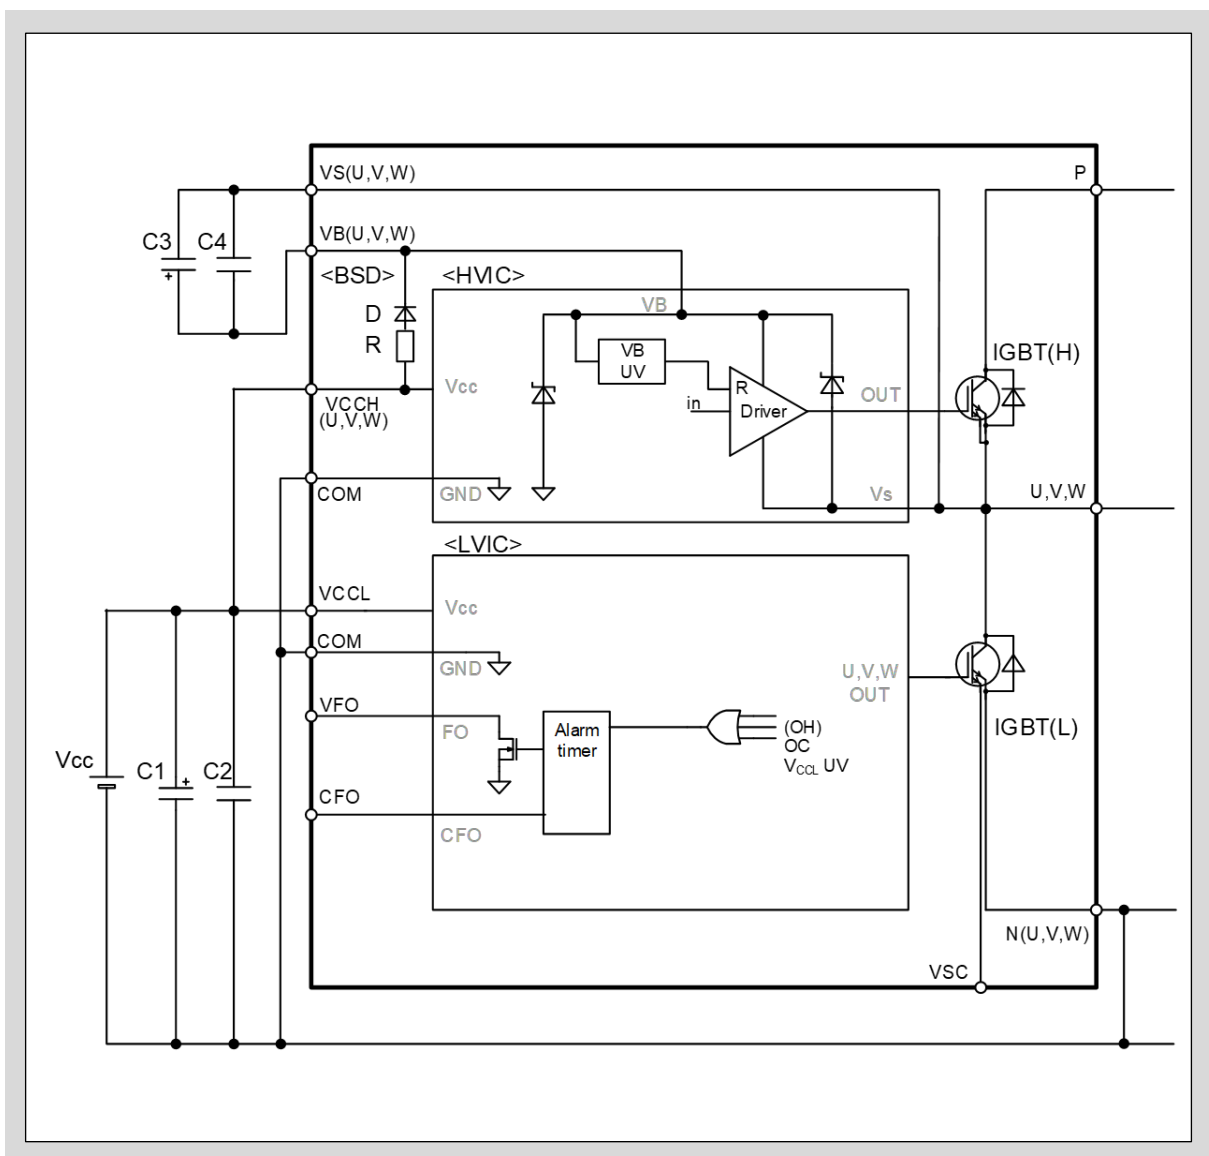

Fig. 3-4 UV protection circuit of high-side bias voltage
- Fig.3-4 shows the UV protection circuit of high-side bias voltage  $V_{B(*)}$ .
- As shown in Fig.3-4, diodes are connected to the  $VB(U,V,W)$ ,  $VS(U,V,W)$  and  $VB(U,V,W)$ -COM terminals. These diodes protect the product from input surge voltage. Do not use these diodes for voltage clamp purpose otherwise the product might be damaged.